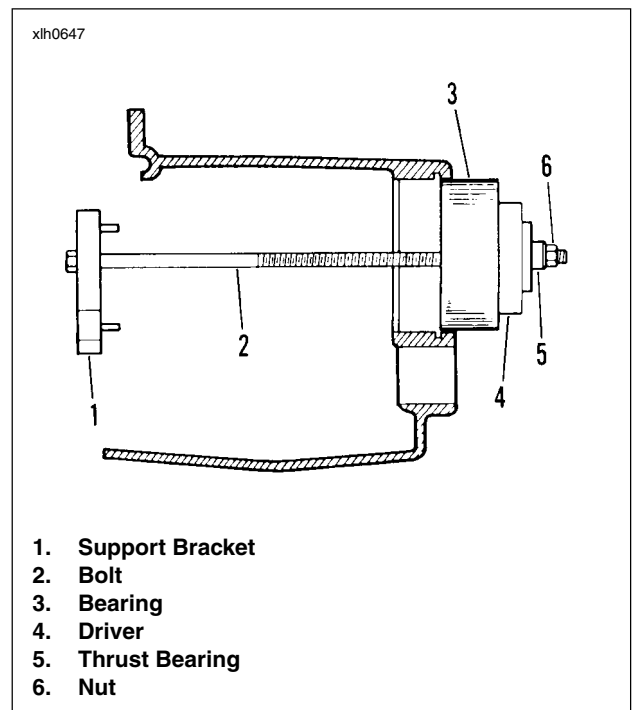

Figure 6-59. Installing Mainshaft Ball Bearing
2. See Figure 6-59. Insert bolt (2) through support bracket (1), new bearing (3), driver (4) and thrust bearing (5). Thread nut (6) on end of bolt. Tighten nut carefully until bearing is started in bore squarely. Tighten nut (6) until bearing is seated against shoulder in bore.